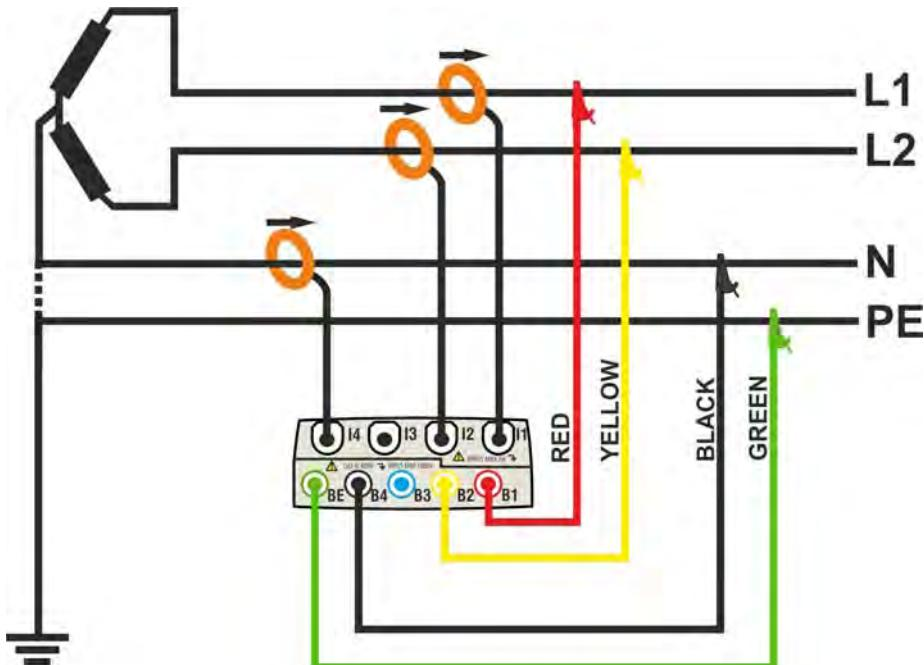

Fig. 143: Meter connection in a two phase 3-wire 3P2E system – ENG\_UK type
2. Connect voltage test leads on Phases L1, L2, N and PE cables considering the colours as shown in Fig. 143
3. Connect the transducer current clamps on Phase L1, L2, N cables as shown in Fig. 143 respecting the clamp's arrow direction indicating the current standard sequence from generator to load. **On Real Time Values' section screens (selecting a 3 wire system preliminarily) always verify the positive value of Active Power and the power factor relative to load which should be normally inductive** before starting a recording. Reverse the clamp by 180 degrees on cables in case of negative readings.